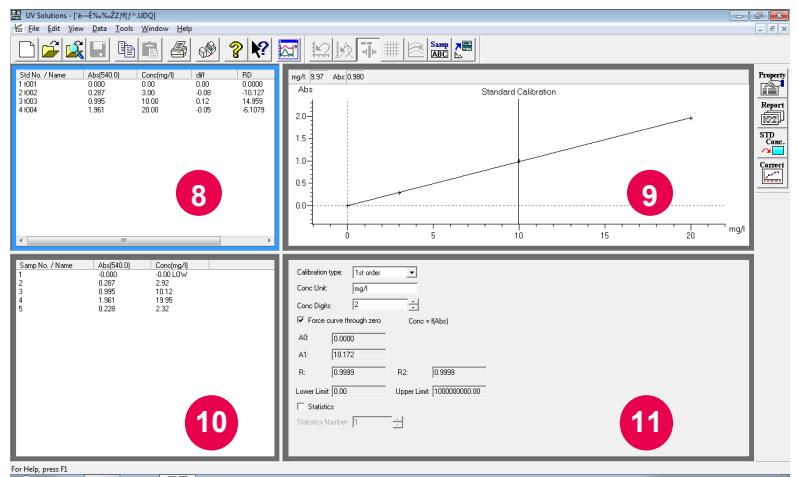

Fig. 1-50
- For measurement from a calibration curve, a window as in Fig. 1-50 will appear.